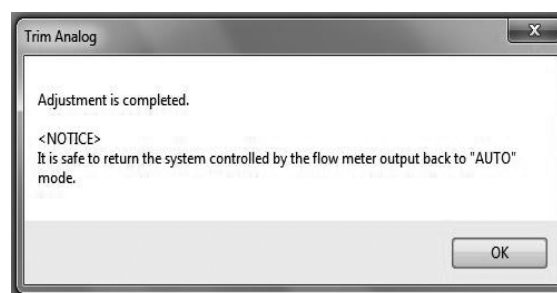

Fig. 3-72
- (6) By clicking "Cancel" button, the adjustment of analog output value will be completed. The message box "Adjustment is completed" shown in Fig. 3-72 will be displayed. Click "OK" button.
- (11) By clicking "Cancel" button, the adjustment of analog output value will be completed. The window "Adjustment is completed" shown in Fig. 3-72 will be displayed. Click "OK" button.
- (12) To stop the adjustment during the process, click "Cancel" button and follow the following message.